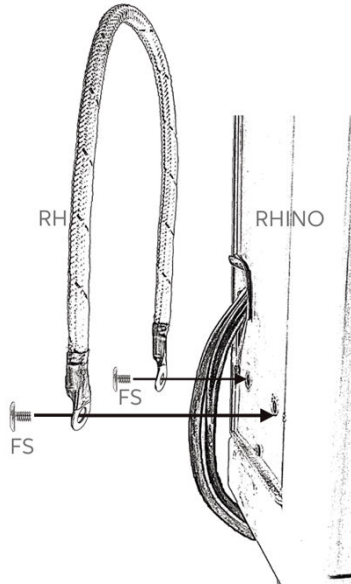

Fig. 4
1. Attach rope handles (RH) to sides of RHINO using the flat top screws (FS) provided, as seen in Figure 4.
1. Attach rope handles (RH) to sides of the first RHINO unit using the flat top screws (FS) provided, as seen in Figure 4.